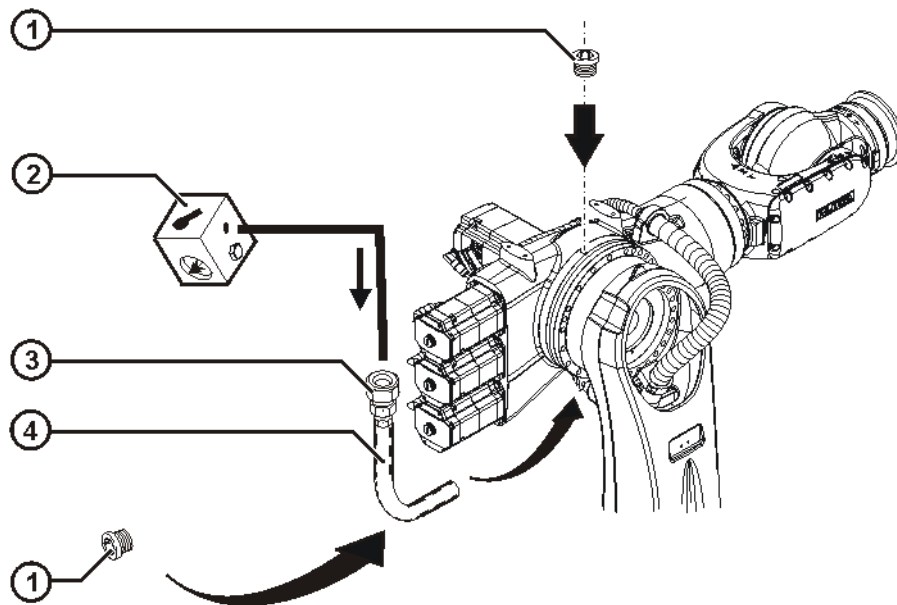

Fig. 9-25: Filling with oil on A3
1. Fill the specified amount of oil via the oil drain hose using the oil pump (>>> Fig. 9-25 ).